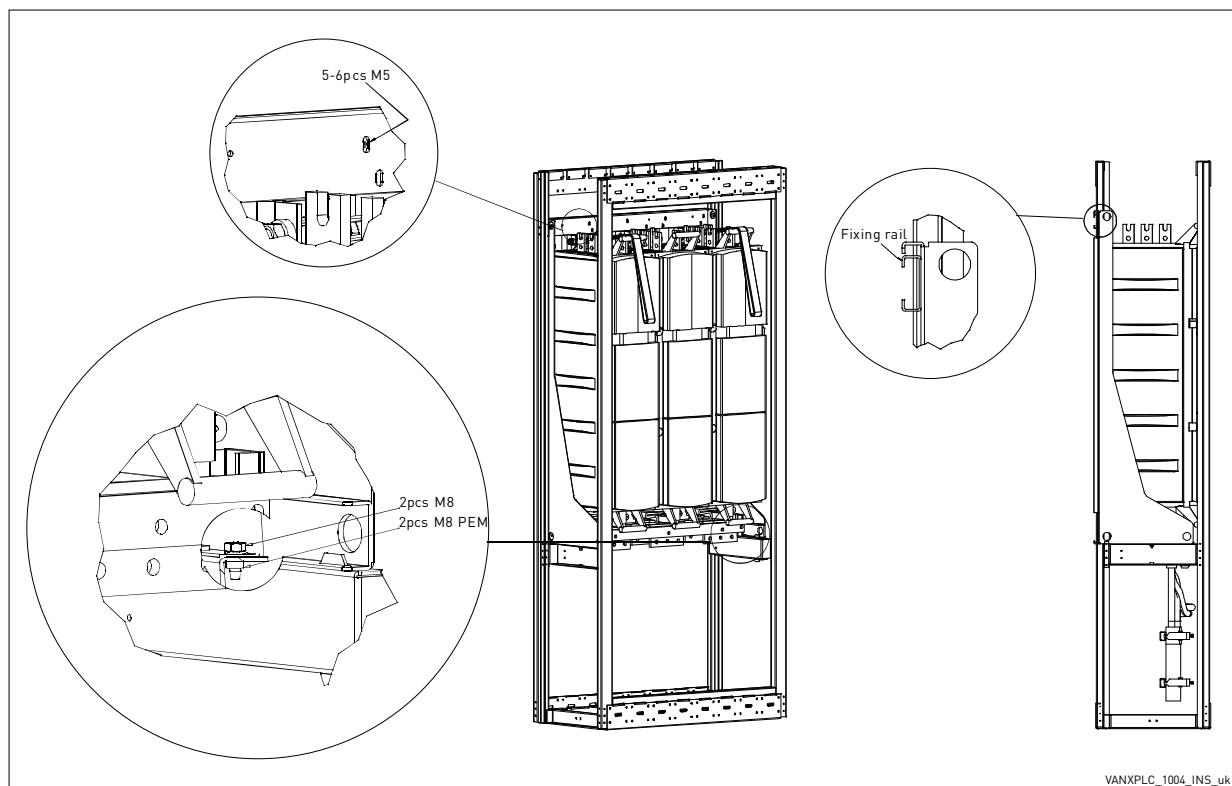

Figure 3. Securing the drive to the cabinet frame
For units with no mounting bracket (see chapter 5.1.2.2), the best place for hoisting is the hole(s) in the middle of the mounting plate (Lifting point 1). Vacon NX Liquid-Cooled drives consisting of several modules can the most safely and easily be lifted by the holes in the mounting bracket (Lifting point 2) using a screw pin shackle. Pay also attention to the recommended dimensions of the hoisting belt and the beam. See Figure 3.
The NX liquid cooled drives are equipped with plastic handles and these handles can be used to lift drives consisting of one power module (CH61, CH62, & CH72). Recommended lifting point is mounting plate shown in Figure 3.
**Note:** A drive that includes two or three modules (CH63, CH64, & CH74) shall not and is never allowed to be lifted from one plastic handle. Recommended lifting procedure for these units are as described in Figure 3 and Figure 4.